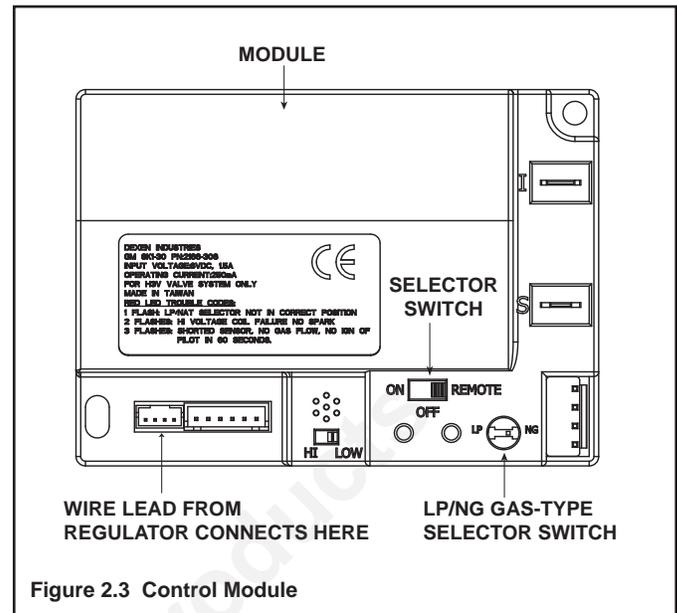

Figure 2.3 Control Module
1. The control module has an ON/OFF/REMOTE selector switch that must be set. See Figure 2.3.
2. If using a wired wall switch with the module in REMOTE mode, the flame output can be adjusted with the HI/LO selector switch on the module. See Figure 2.3. Note that the flame HI/LO selector switch will become inactive once an optional remote control (RC300AU) is programmed to the control module. Note that the control module will always ignite the fireplace on HI and remain so for the initial 10 seconds of operation. If the HI/LO is switched to the LO position, the flame output will automatically drop to the lowest setting after the flame has been established for 10 sec. After this 10 second period, the flame can be adjusted from HI to LO with the switch.